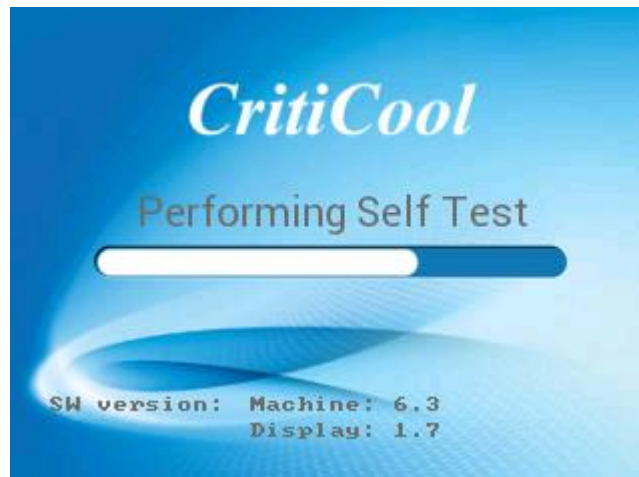

Figure 8: Self-Test Screen.
1. Turn the main power switch upwards to the ON position. The Self-Test panel is displayed (see Figure 8). At the end of the Self-Test, the alarm is automatically activated.